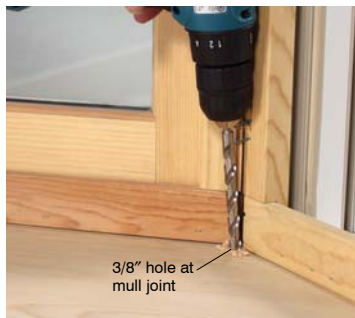

Figure 2
3. From the interior of the unit, drill a 3/8" hole through the head and seatboards at precisely the point where the two jambs meet. See figure 2.